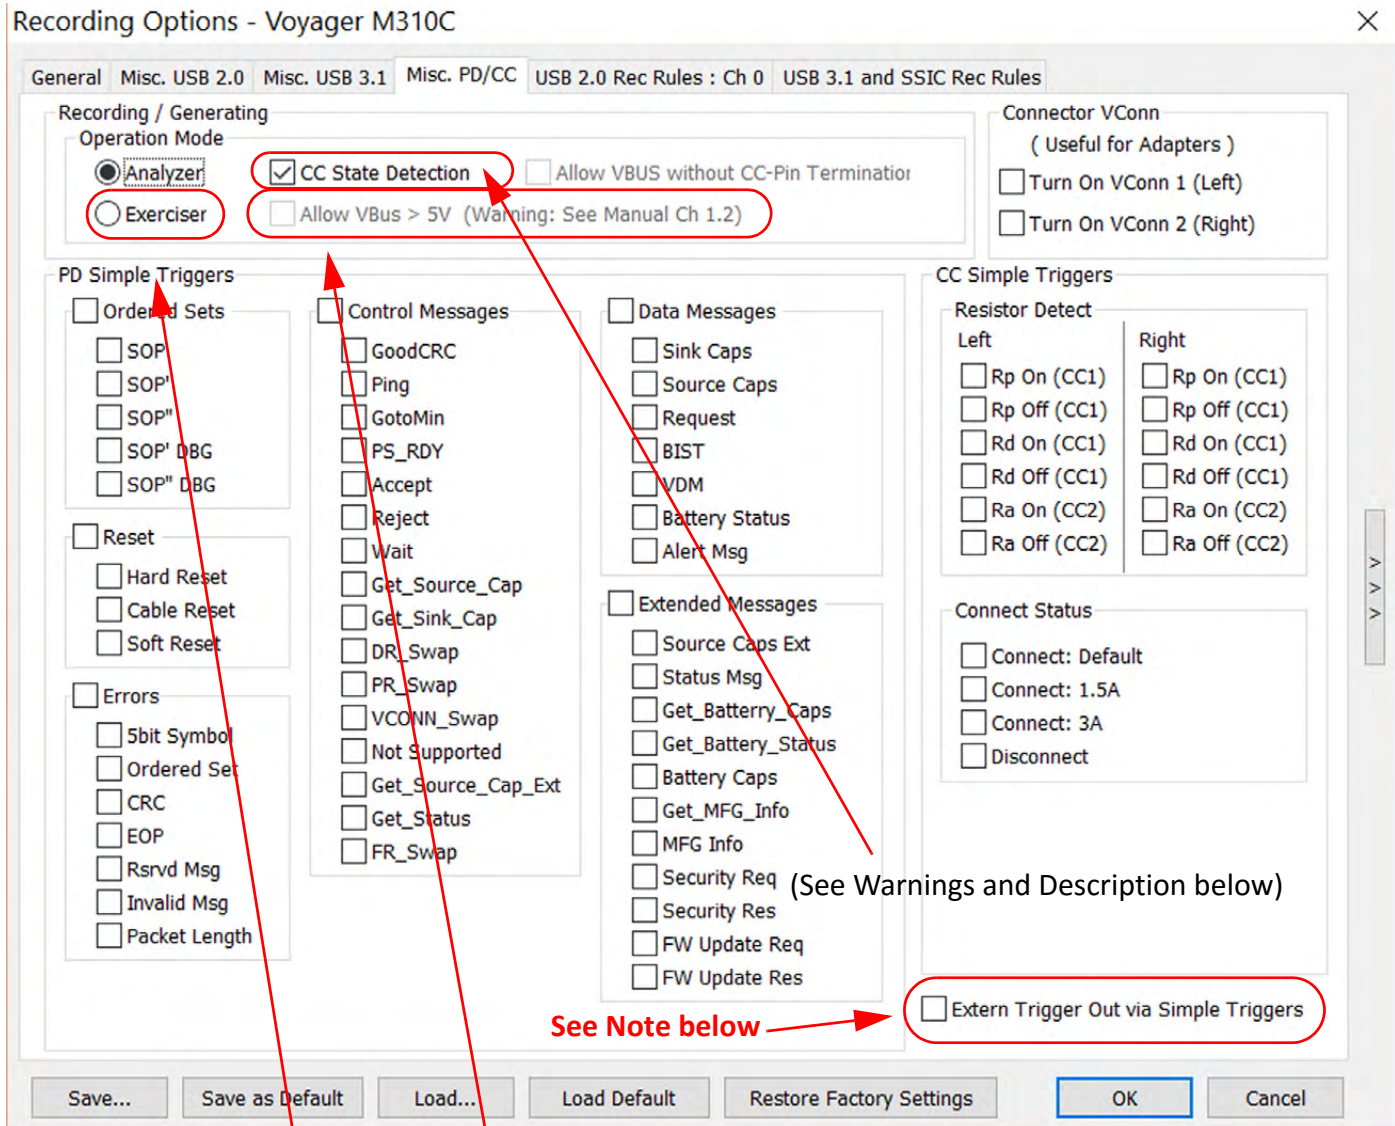

Figure 10.16: Voyager M310C: Recording Options for PD and CC Events
The Trigger options for Misc. Power Delivery (PD)/Configuration Channel (CC) events are the same in both Simple and Advanced Mode. See Figure 10.16 on page 383.